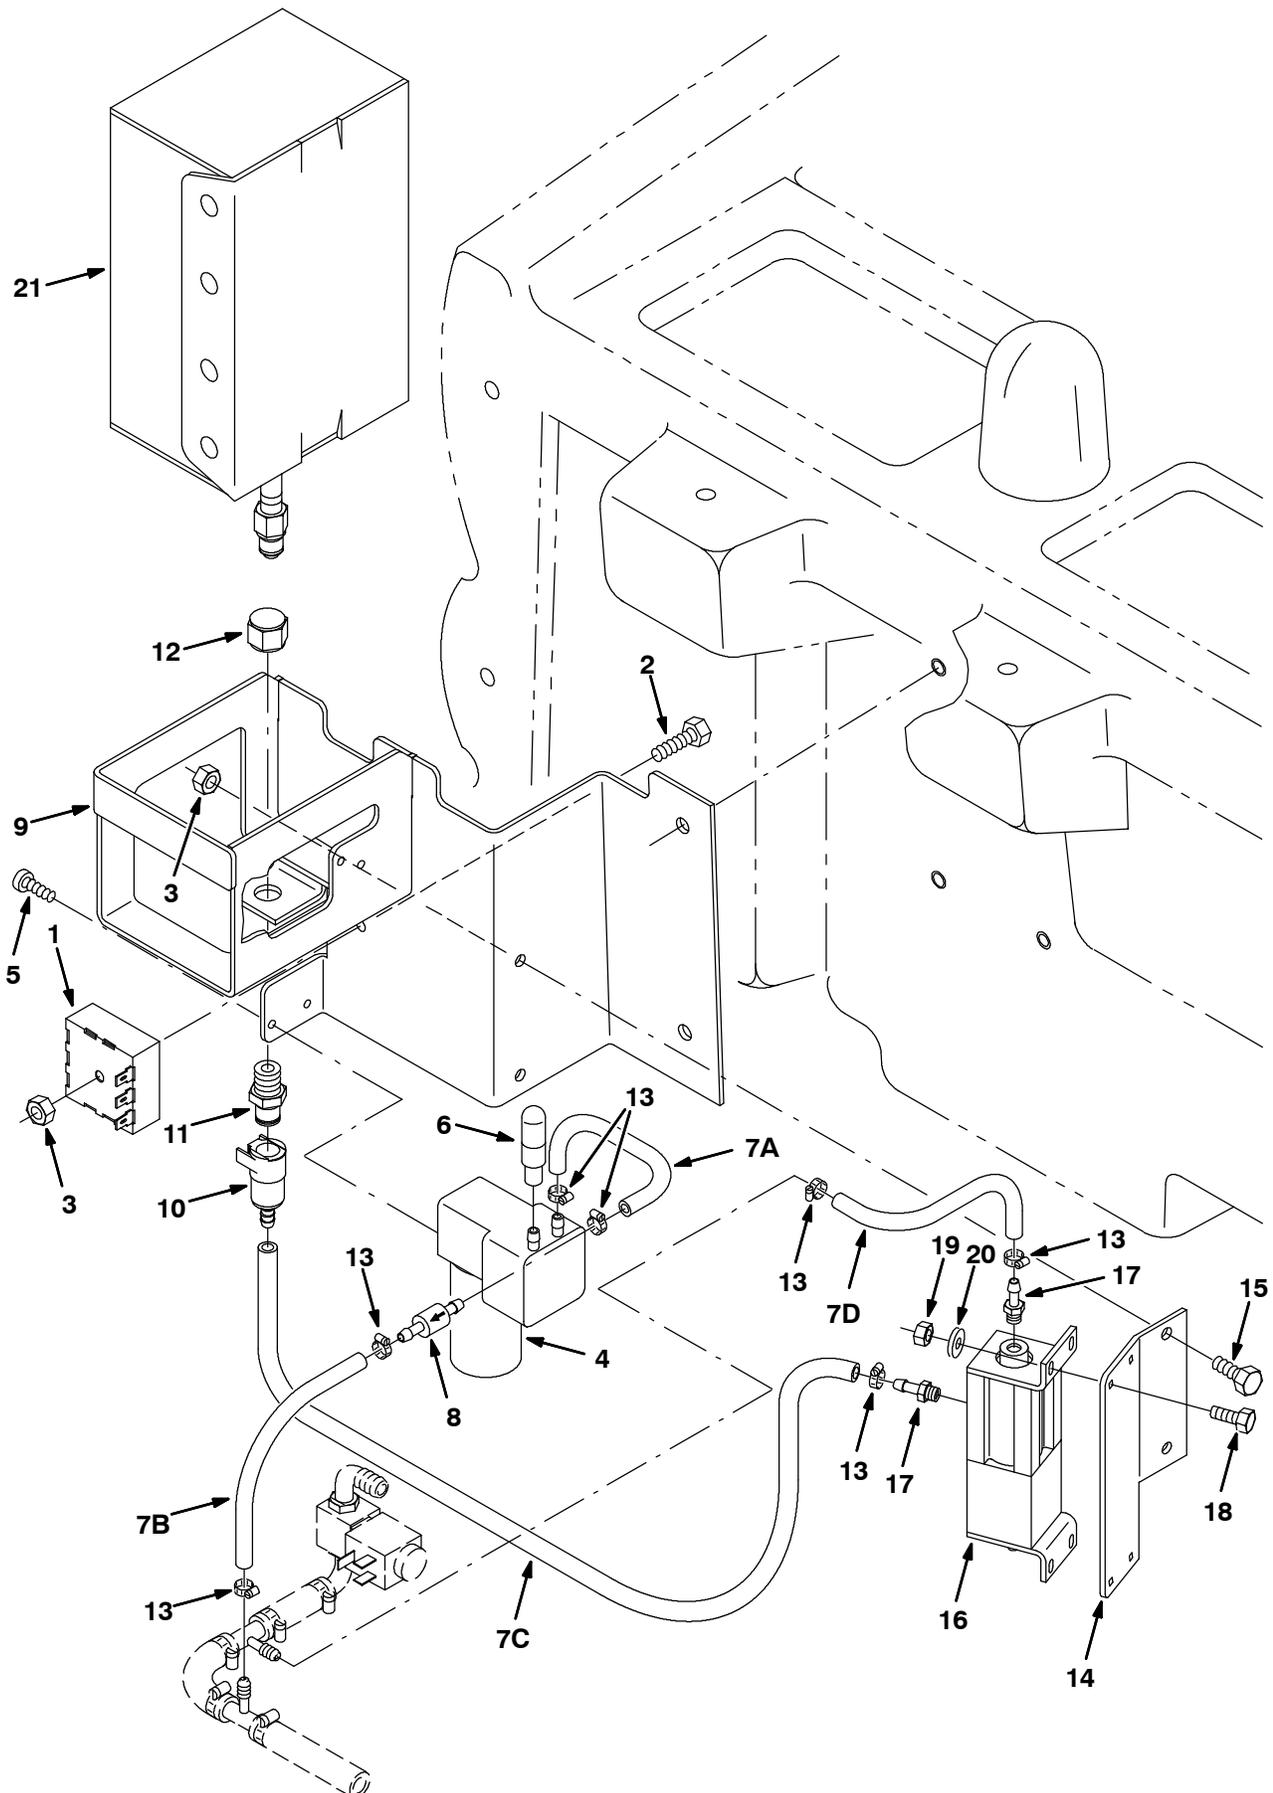

FIG. 4 - FaST™ Air Pump and Detergent Group
1. Install detergent pump 1006473, air pump 1002344, and timer 1005199 to bracket 1002750. (Refer to FIG 4)
NOTE: Timer 1005199 in photo needs to be rotated 90° counterclockwise. (Refer to FIG 4)
2. Install two fittings 1005564 on the shut off valve 1005015. Mount valve 1005015 on bracket 1002750. Rotate solenoid 90°. (Refer to FIG 4 and 5)
4. Mount the FaST™ assembly mounting bracket on the left side of the scrub head guide bracket with scrub head guide bracket mounting bolts. (Refer to FIG 4)
11. Using the hose diagram/info. for reference, connect the hoses and foam filter as shown. Secure all of the hoses with proper sized worm clamps. (Refer to FIG 4 thru 6)
6. Install the FaST™ detergent bottle in support bracket 1002750. Connect the hose fittings together. (Refer to FIG 4)
FaST™ Air Pump and Detergent Group (Fig. 4):